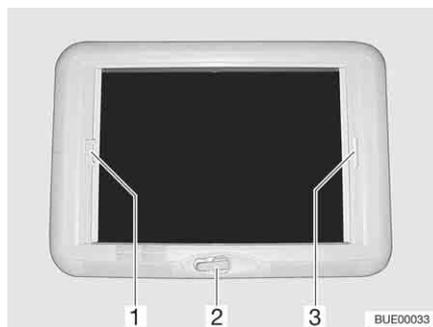

Fig. 108 Wind-up skylight
- Opening:** ■ Rotate the hand crank (Fig. 108,2) until a resistance can be felt.
- Closing:** ■ Pull the handle of the Roman shade (Fig. 108,3) and release in the desired position. The Roman shade will stay in that position.
- Closing:** ■ Pull insect screen at the handle (Fig. 108,1) to the opposite handle of the Roman shade (Fig. 108,3) and allow to engage.
- Opening:** ■ Press the handle of the insect screen (Fig. 108,1) at the back upwards and detach the insect screen from the Roman shade (Fig. 108,3).